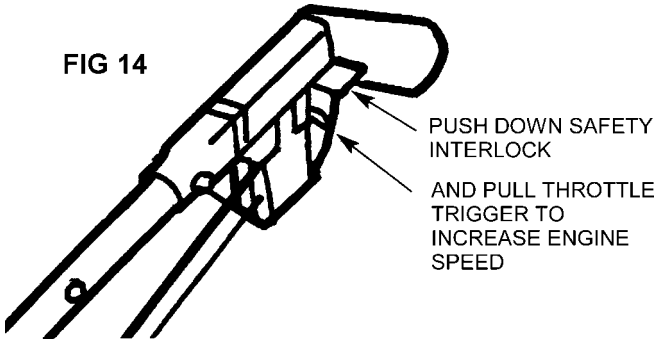

FIG 14
- Throttle trigger (engine accelerator control) is operated by pushing down interlock with thumb and pulling on trigger (Fig. 14).